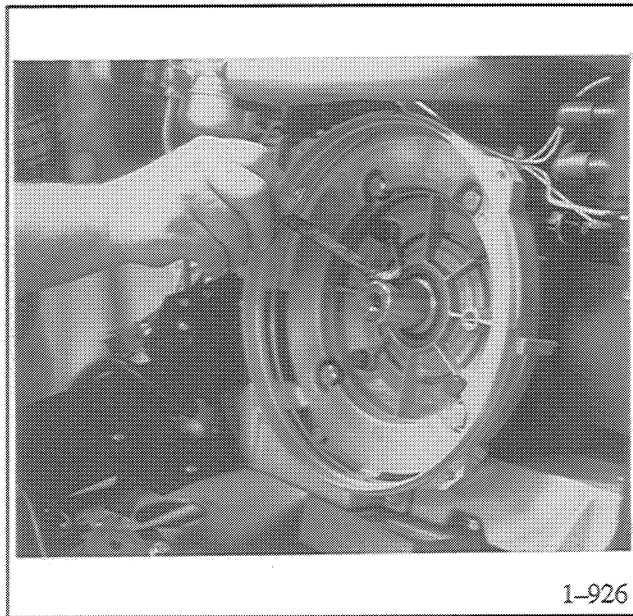

Figure 8-28. Applying Ant-Seize Compound
1. Coat crankshaft tapered shaft with anti-seize compound. See Figure 8-28.